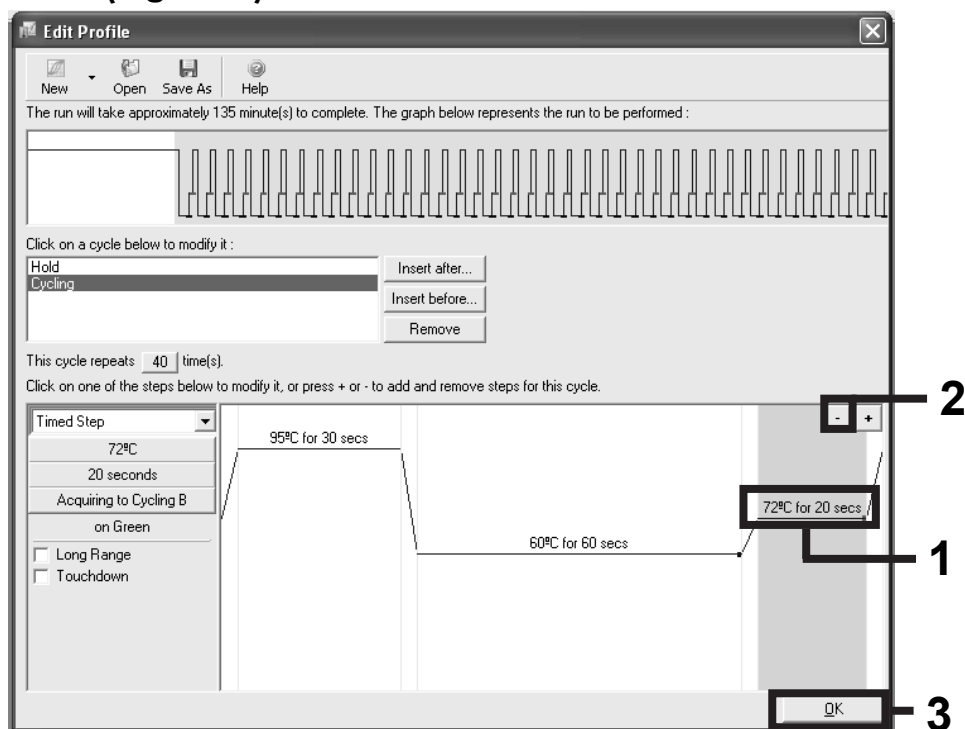

Figure 9. Removal of extension step.
12. Highlight the third step and delete by clicking the "-" button. Click "OK" (Figure 9).